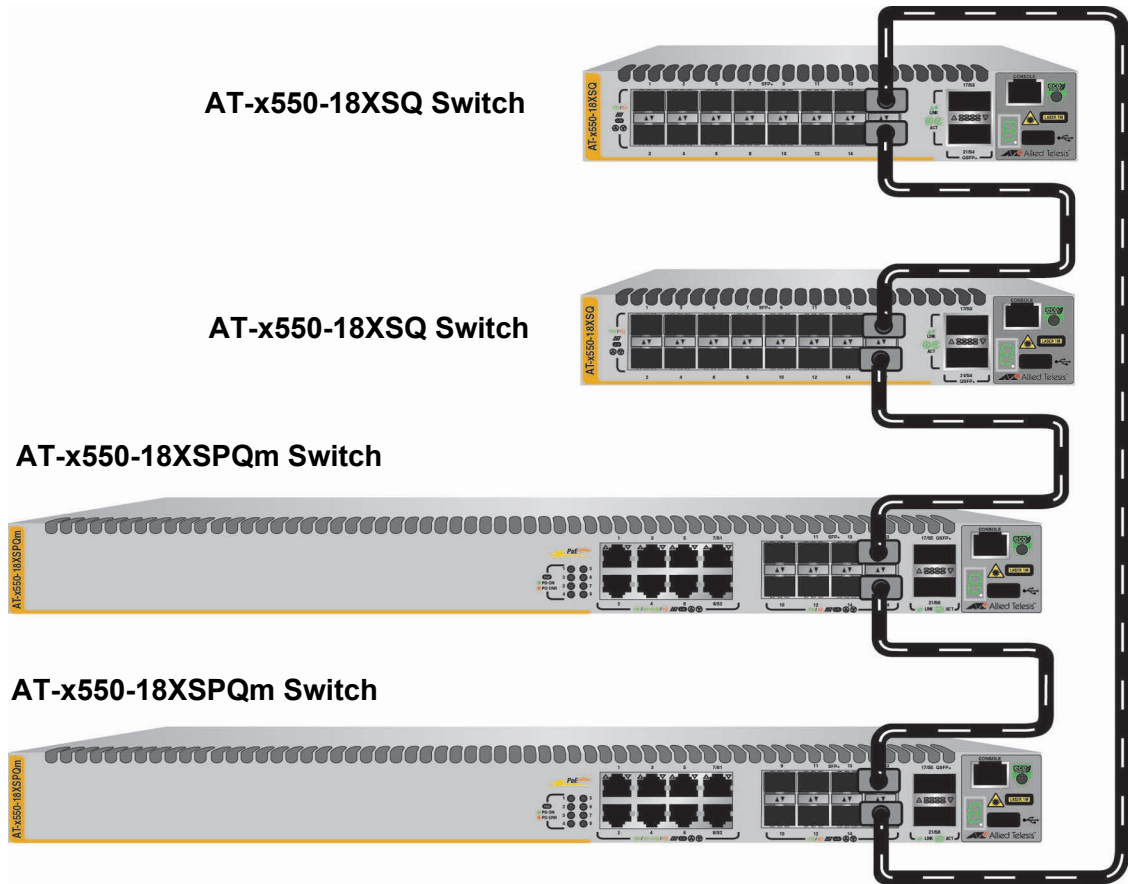

Figure 20. Example of a 10Gbps Stack Trunk with AT-x550-18XSQ and AT-x550-18XSPQm Switches
- ❑ Stacks with 10Gbps trunks can have different switch models. Figure 20 is an example of a mixed stack of AT-x550-18XSQ and AT-x550-18XSPQm Switches.